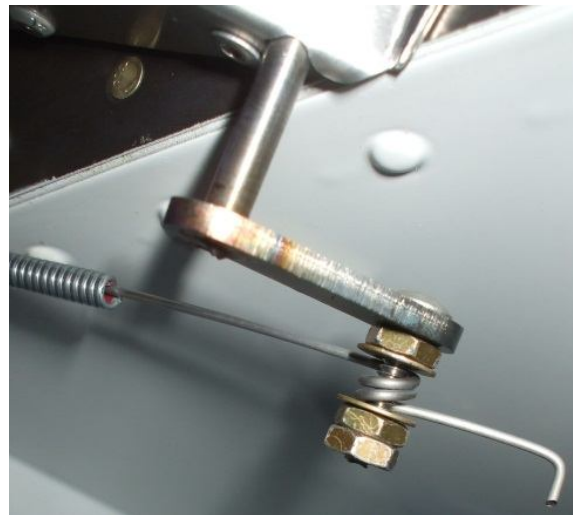

Figure 3
7. Install AN526C632R12 on arm of control box with an AN340-6 nut. Remove the nut holding the last cable clamp. Add 3 AN960-10 washers under the clamp and reinstall the clamp. Pull the housing through the other clamps on the firewall to get enough length to slip the loop in the wire over the stud (AN526C632R12) on the arm of the control box (Figure 3). Put one AN960-6 washer, the loop on the wire, a second AN960-6 washer, and then two AN340-6 nuts over the stud in the arm. The second of the two nuts acts as a jam nut. The wire loop should be able to rotate on the stud in the arm as the arm moves. Adjust the position of the cable housing in the last clamp on the firewall to ensure full travel of the door in the cabin heat control box. Install spiral wrap over cable housing where housing passes by the lower edge of the firewall.